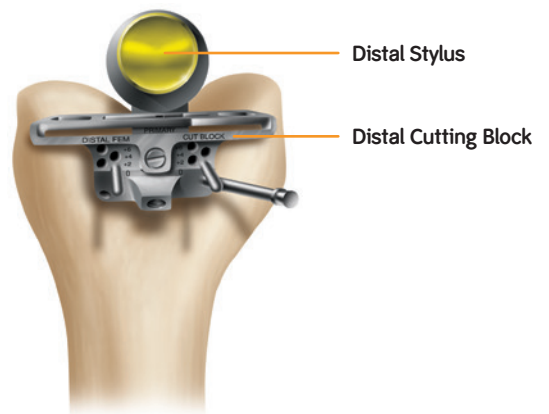

Figure 14
- 1 Secure the distal femoral cutting block assembly to the anterior cortex by impacting or drilling unheaded or headed pins through the holes marked '0'. Use of a third oblique pin is recommended for additional stability (Figure 14).